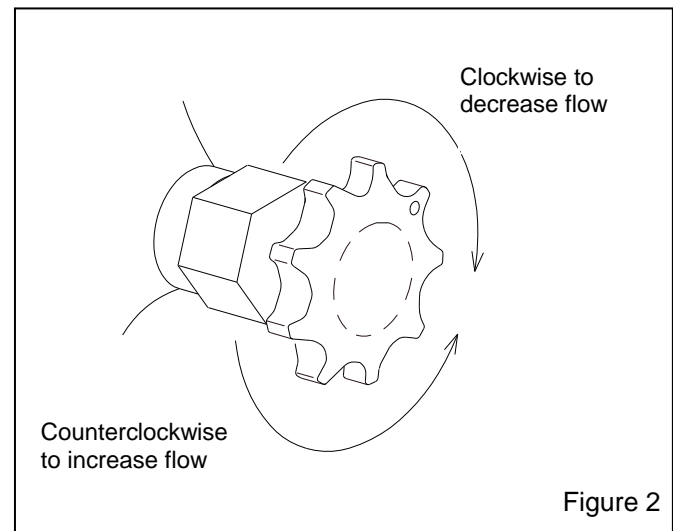

Figure 2
3.0 ADJUST ABRASIVE FLOW, Figure 2